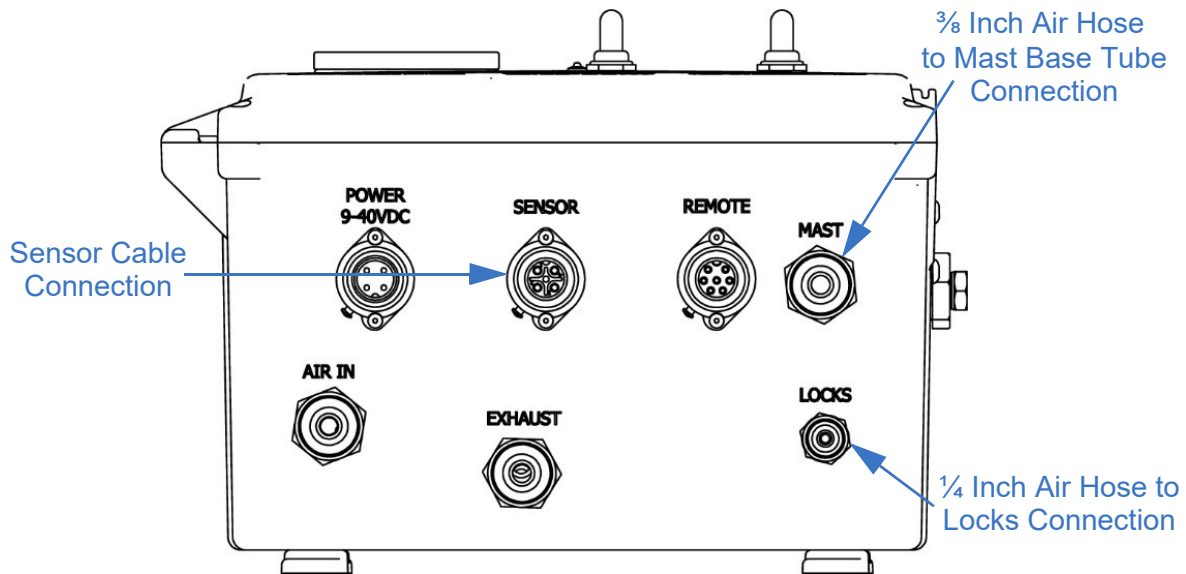

Figure 5-23 Control Box to Mast Connections
2. Connect the $\frac{3}{8}$ inch air hose (P/N: 108768) to the “MAST” connection on the control box (Figure 5-23).
6. Connect the $\frac{1}{4}$ inch air hose (P/N: 5558001) to the “LOCKS” connection on the control box (Figure 5-23).
10. Connect the sensor cable (P/N: 5567601) to the “SENSOR” connection on the control box (Figure 5-23).